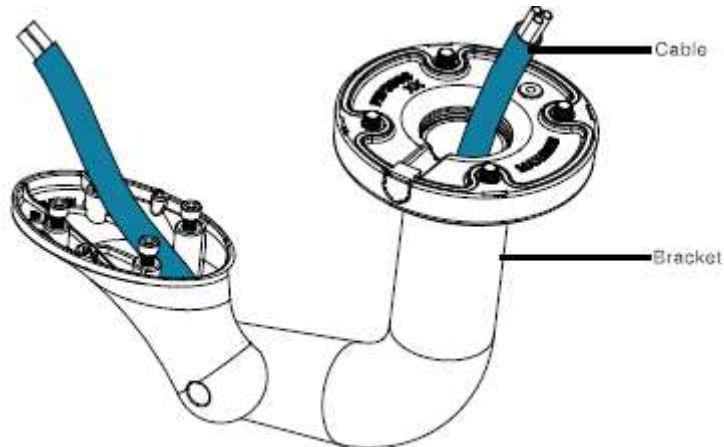

Figure 3-2
Step 1: Pull the cable through the inside of the bracket. See Figure 3-2.